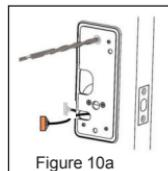

Figure 10a
- Using a 1/16" (2mm) drill bit, drill a pilot hole in your door using the Mounting Plate upper hole as a guide (Figure 10a).